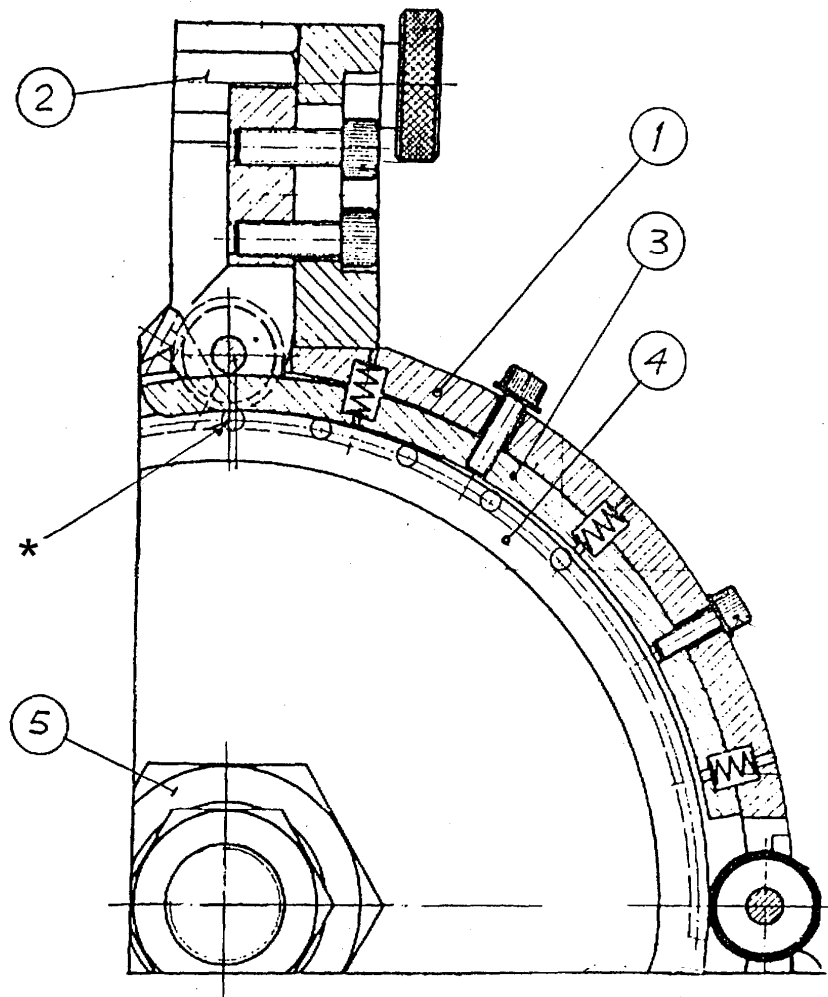

Fig. 5
2. **Drum** (Fig. 5)
3. The tilting cover (Fig. 5)